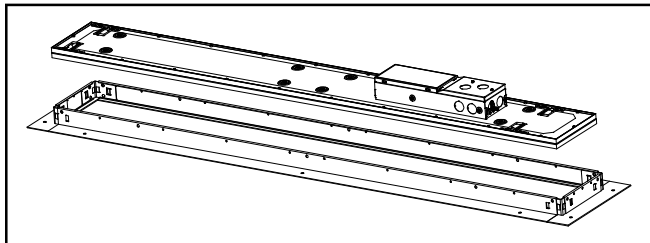

Figure 1.
1. Install fixture in VR frame kit. (Figure 1.)